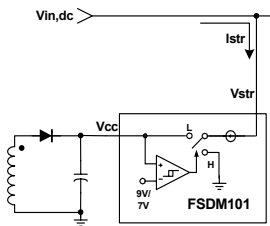

Figure 4. Internal Startup Circuit
1. Startup : At startup, the internal high voltage current source supplies the internal bias and charges the external Vcc capacitor as shown in Figure 4. In the case of the FSDM101, when Vcc reaches 9V the device starts switching and the internal high voltage current source is disabled. The device continues to switch provided that Vcc does not drop below 7V. After startup, the bias is supplied from the auxiliary transformer winding.